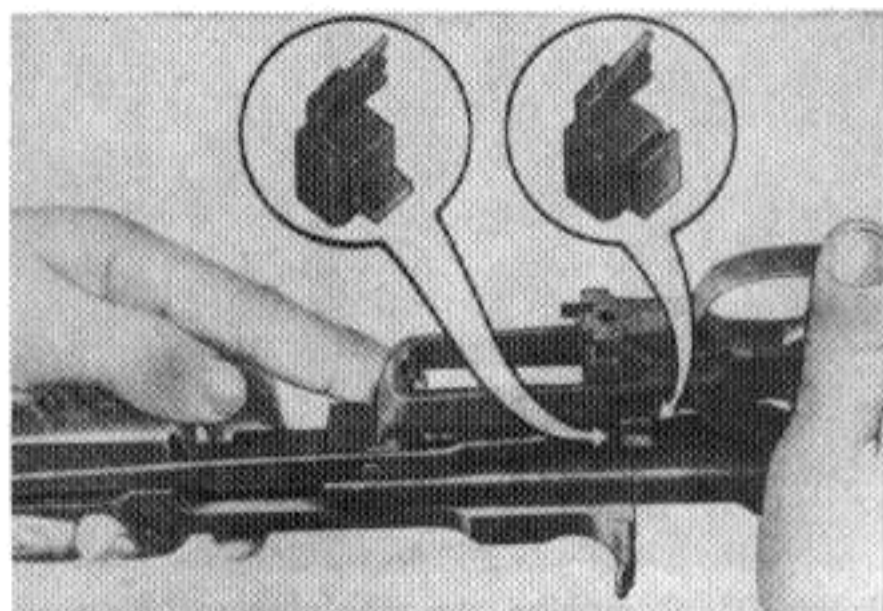
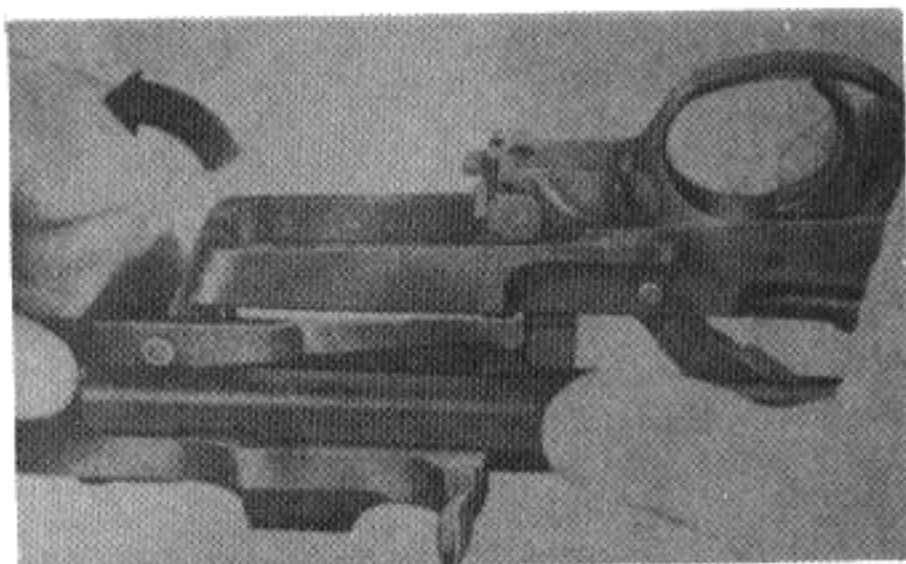

Figure 9. Removing the disconnecter lever assembly.
Figure 10. Removing the disconnecter lever assembly.
*h.* To remove the disconnecter lever assembly, push on the trigger housing and selector pin, unseating the disconnecter lever (Fig. 9). Remove the disconnecter lever assembly. If the disconnecter on your weapon has a slotted groove instead of a shoulder, disengage the rear end of the disconnecter lever before attempting to remove the disconnecter lever assembly. To do this, unseat the disconnecter lever assembly and then rotate the crank forward, disengaging the rear end of the disconnecter lever from the slotted groove of the disconnecter (Fig. 10). Now, remove the disconnecter lever assembly.